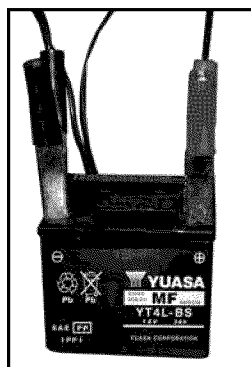

Figure 24
2. Connect the black negative (-) cable to the black negative (-) pole of the battery. (see figure 24)